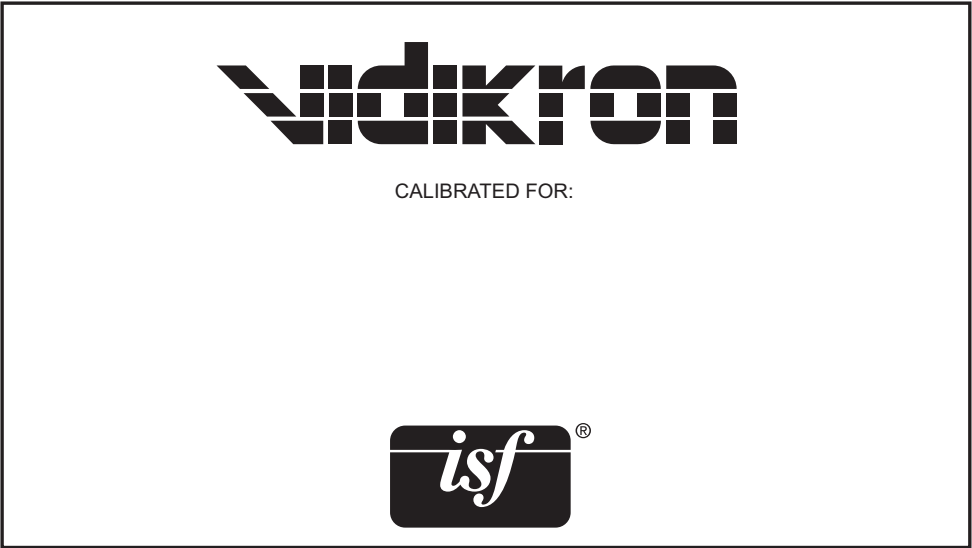

**Figure 4-11. ISF-Enabled Vision 10/12 Splash Screen**
**ISF Enable:** Use ISF Enable to control the display of the ISF logo on the Vision 10/12 splash screen upon power-up; see Figure 4-11.